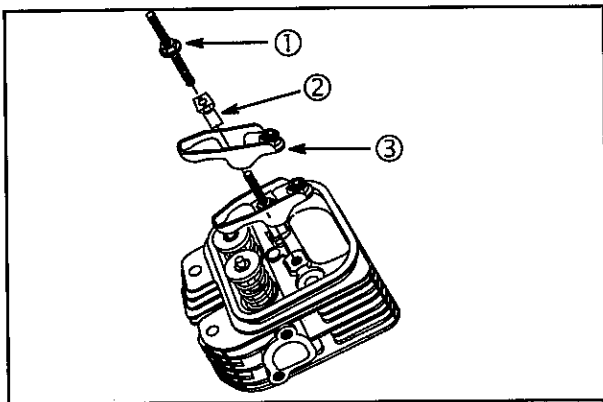

Fig. 21
1. Lubricate rocker arm supports (2) with clean engine oil.
2. Assemble rocker studs (1), rocker arm supports and rocker arms (3) to cylinder head, **Fig. 21**. Torque studs to 100 in. lbs. (11 Nm).